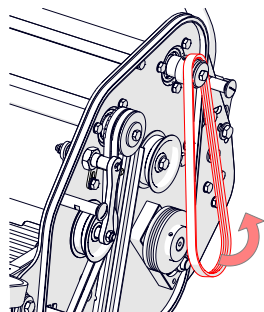

Fig.14H - Remove and replace the belt.
- ii. Hold the tensioner pulley away. Remove the belt and replace (if required) (Fig.14H).